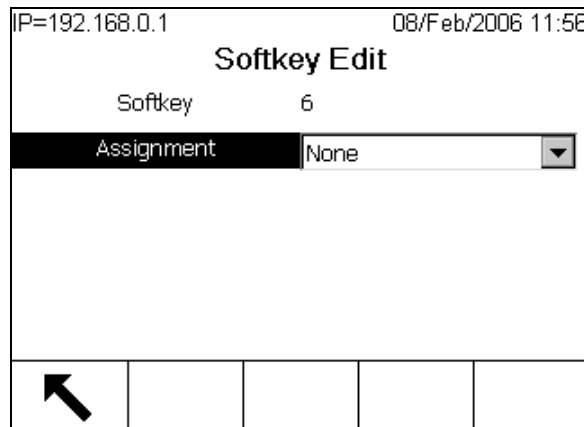

Figure E-5: Softkey Assigned to None
- To remove a softkey without moving all following keys up one position, simply EDIT the key, reassigning it to None, as shown in Figure E-5.